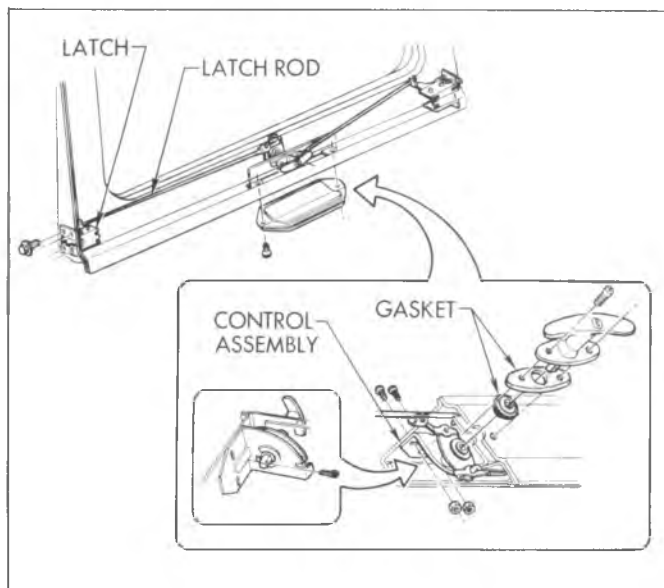

Fig. 64—Liftgate Control Assembly
2. Remove the control assembly access hole cover as shown in Figure 64.